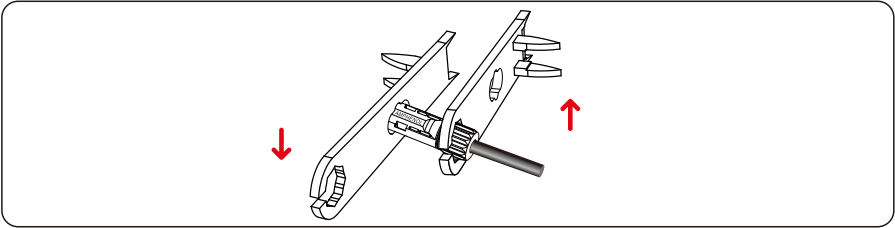

Figure 5.12 Locking connectors
**Step 4** Tighten the locking nuts on the positive and negative connectors by using a removal wrench, as shown in Figure 5.12.